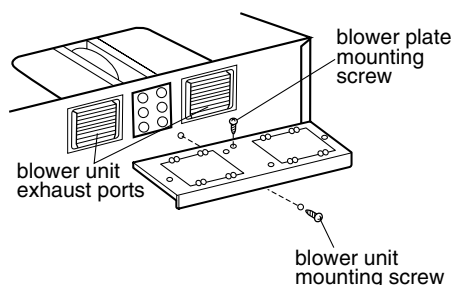

Figure 17
7. Reattach the blower plate to the top of the cabinet as it was originally assembled. Attach with one blower unit mounting screw and then one or two blower plate mounting screws. See **Figure 17**.